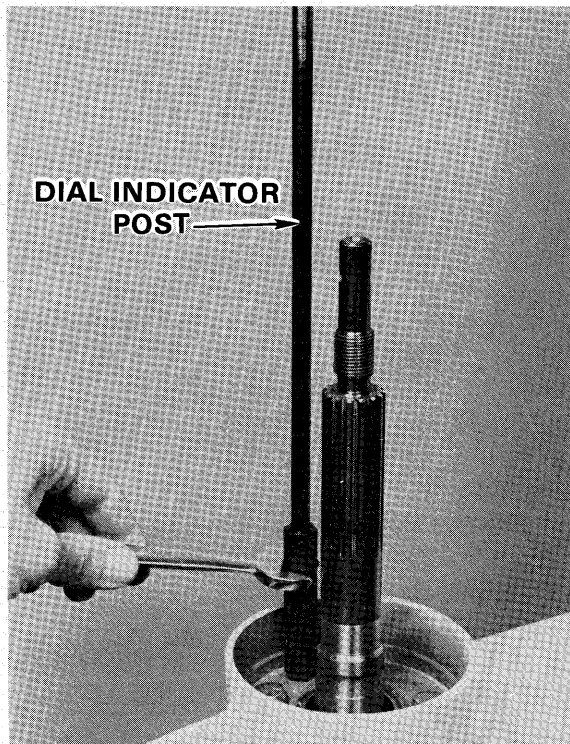

Figure 29—Installing Dial Indicator Post
- H. Install four (4) spool bolts and torque evenly to 150 inch pounds.
- I. Install dial indicator post (Special Tool T8997F) in one of the puller holes on the prop shaft spool as shown in figure 29.